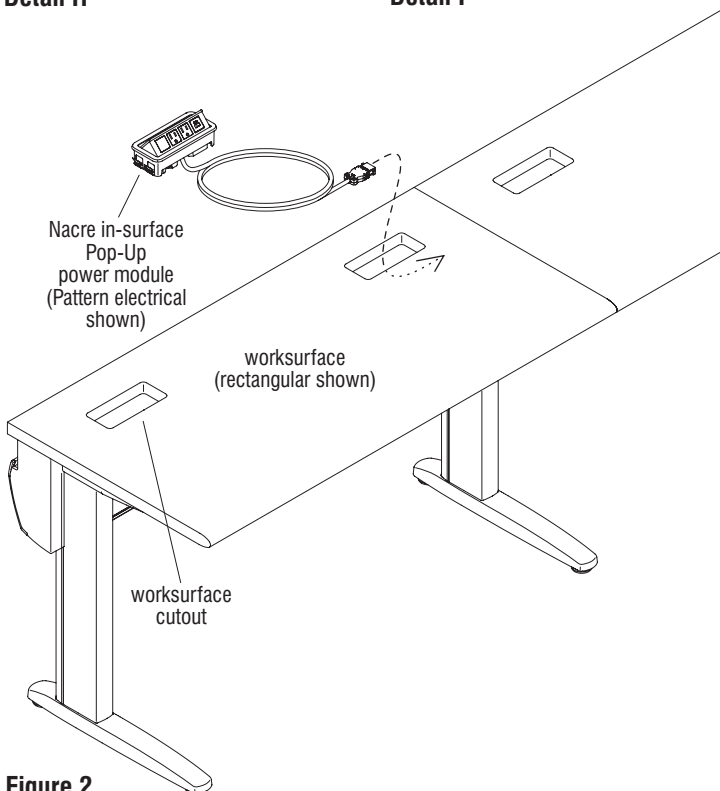

Figure 2
2. Orient the Nacre in-surface pop-up power module as shown and route the connector end (or plug end) down through the workspace cutout. Press the module down firmly into the cutout to secure in place, making sure the two clips on each side of the module catch under the cutout bottom edge of the workspace (Figure 2 & Detail F).